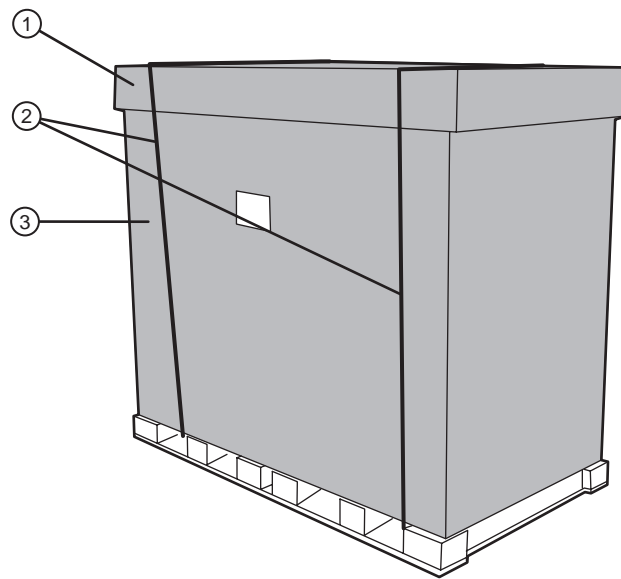

Figure 1-1 The buffer shipping box.
The buffer ships in a single cardboard box attached to a wooden pallet (see Figure 1-1).
1. Cut the two (2) straps around the cardboard sleeve and remove the top cardboard cover. Refer to Figure 1-1.